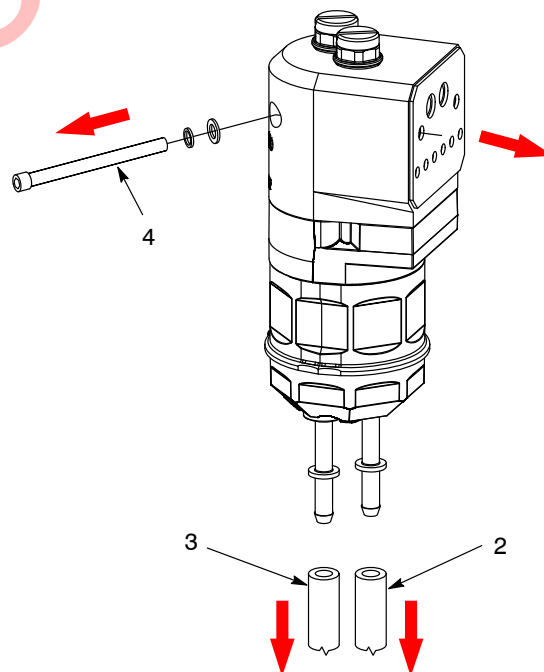
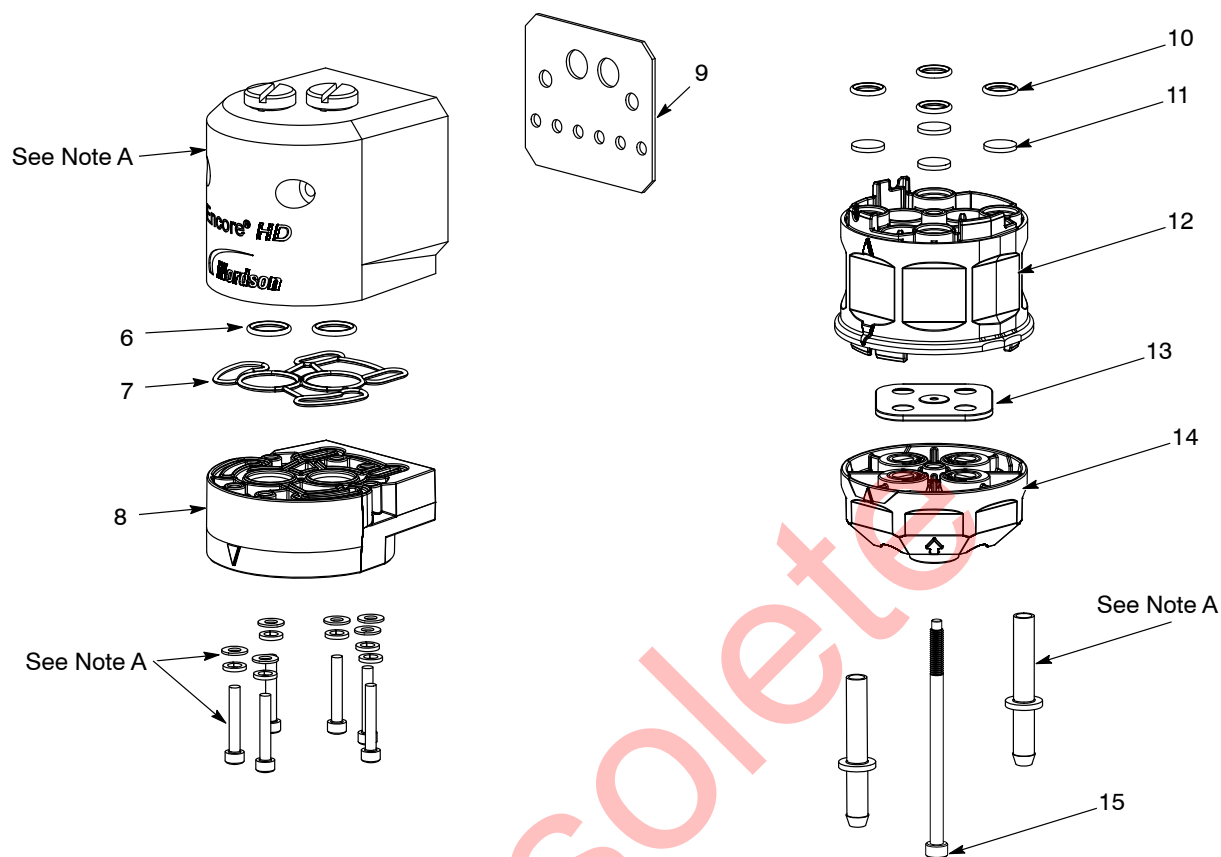

Figure 3 Standard Pump Disassemble Preparation
Figure 4 Pump Disassembly (Encore HD shown)
**NOTE:** Any time the pump is disassembled, the Y block gasket (item 13 in Figure 4) must be replaced.
2. See Figure 3. Disconnect the inlet (2) and outlet powder tubing (3) from the bottom of the pump.
3. Remove the cabinet mounting hardware (4) securing the pump to the pump panel and move the pump to a clean work surface.
4. See Figure 4. Starting with the shoulder screw (15) and lower Y block (14), disassemble the pump as shown.
5. Discard the old items 6–15 from the pump.